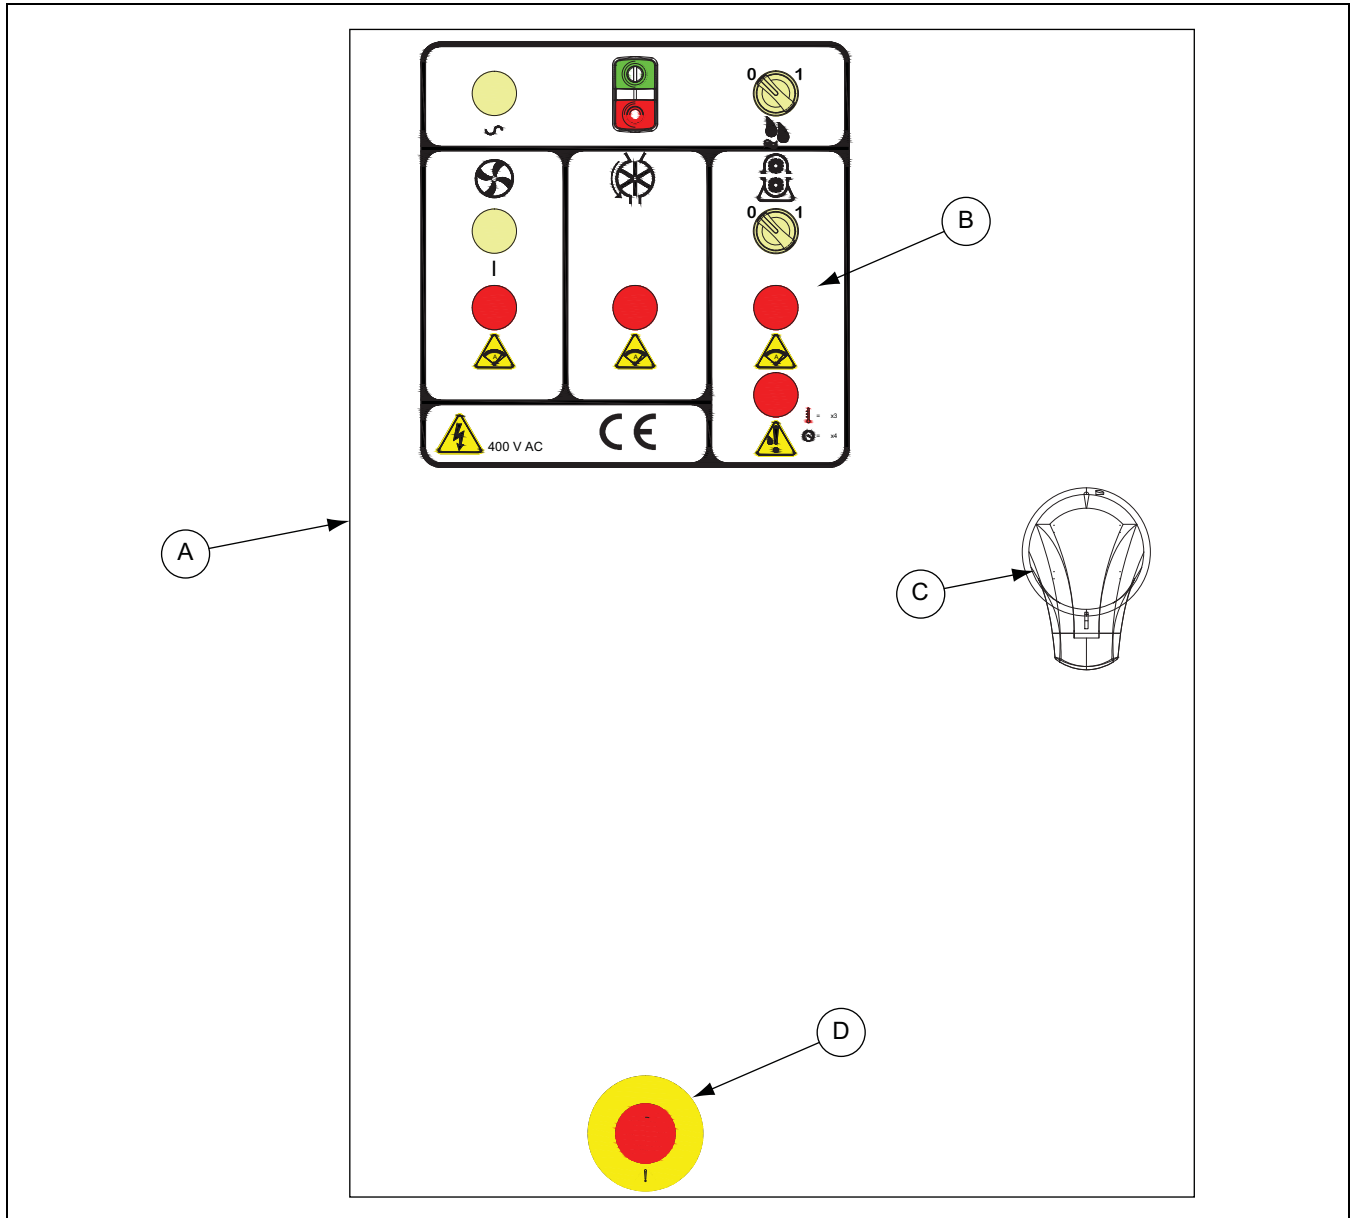

Figure 3B Power and Safety Panel
3. Pull out the emergency stop (D). *(See Figure 3B.)*